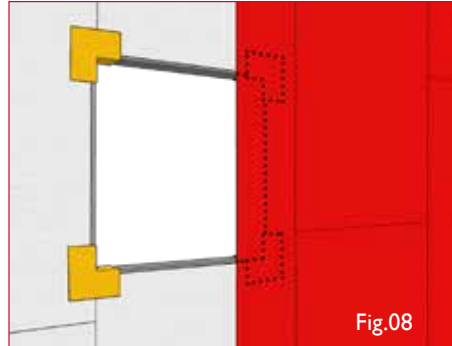

Fig.08
3. Install the next sheet of Membrane so that it covers the Wraptite Corners and the edge of the opening (Fig. 08).
2. Overlap the edge of the opening with Wraptite Membrane (Fig. 08).